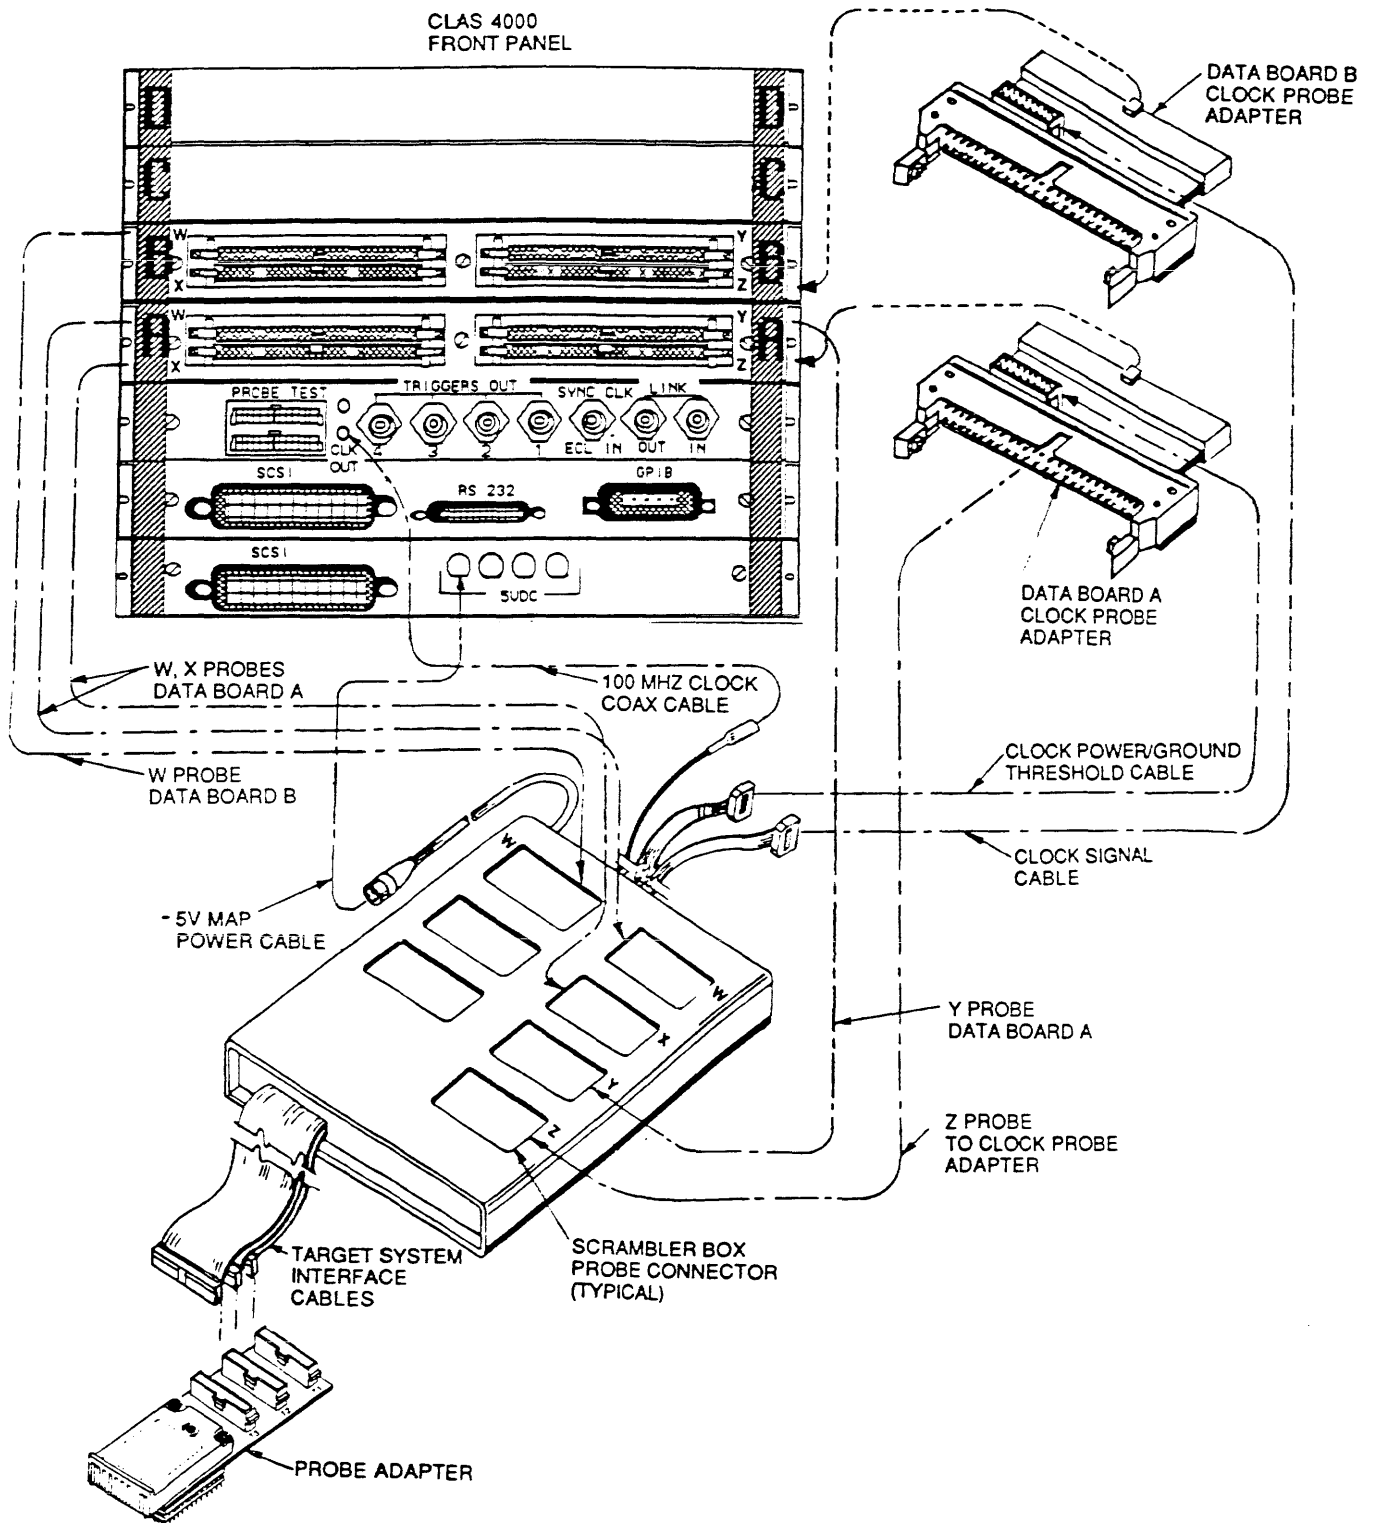

Figure 5-2. Scrambler Box to CLAS 4000 Connections
The two Clock Probe Interface Adapters supplied with the MAP package must be installed on the CLAS 4000 Z Channel connectors at Data Boards A and B. These adapters are used to connect the Scrambler Box clock interface cable to the Z connector as shown in Figure 5-2.
- a) Connect W and X probes from Data Board A to corresponding W and X probe locations on right side of Scrambler Box (see orientation in Figure 5-2).